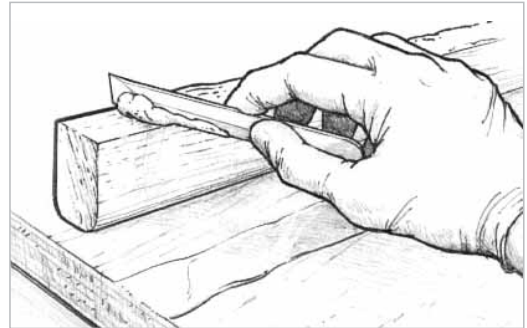

Figure 9-9 Apply enough thickened epoxy to one of the bonding surfaces so that a small amount will squeeze out of the joint when clamped with moderate pressure.
2. Apply thickened epoxy to one bonding surface. Modify the resin/hardener mixture by stirring in the appropriate filler until it becomes thick enough to bridge any gaps between the mating surfaces and to prevent “resin-starved” joints. Apply enough of the mixture to one of the surfaces so that a small amount will squeeze out when the surfaces are joined together with a force equivalent to a firm hand grip (*Figure 9-9*). Six10 Epoxy Adhesive may also be used.